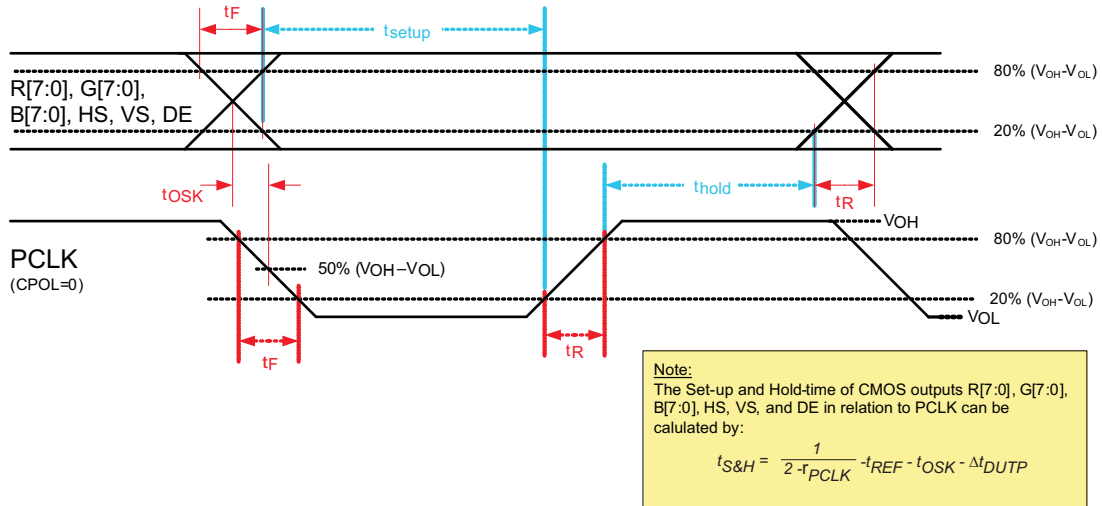

Figure 9. Output Rise/Fall, Setup/Hold Time
| $t_{R/F}$  | Rise and fall time 20%–80% of $V_{DD\_IO}$ (2)           | $C_L = 10 \text{ pF}$ (3)see Figure 9  | 1-channel mode, F/S=L   |     | 8                       | 16             | ns             |               |
| $t_{OSK}$  | Output skew between PCLK and R[0:7], G[0:7], B[0:7], HS, VS, and DE | see Figure 9  | 1-channel mode, F/S=L   |     | -2                      | 2              | ns             |               |